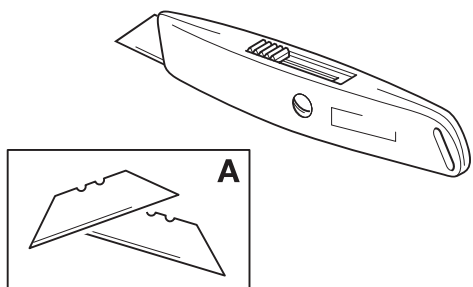

Fig 7. Craft Knife
- d Craft Knife.** ⇒ Fig 7. \(□ B-44\). The blades **7-A** are replaceable.